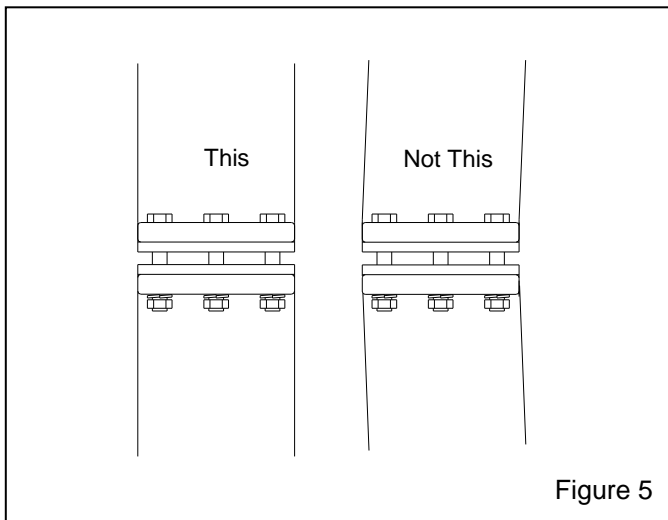

Figure 5
3.9.2 Place the splice bars 90 degrees (perpendicular) to the belt. Clamp the splice bars in place and match-drill 3/8" through both ends of the belt. It is important to align the belt as shown in Figure 5. If the splice is misaligned, from not having the splice bar perpendicular to the belt, the belt may tend to drift off the pulley.